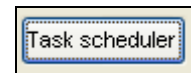

Figure 11.1.2
- Click on the Task Scheduler button (Figure 11.1.2).